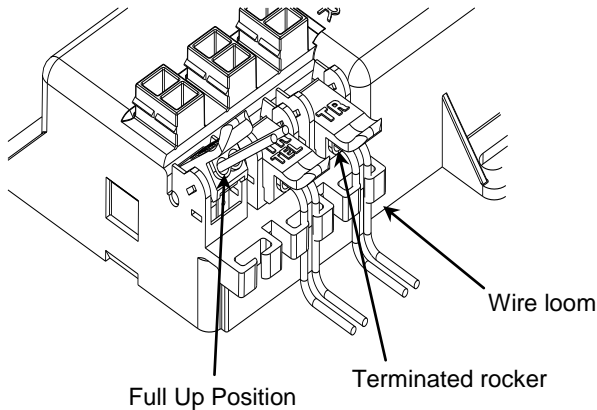
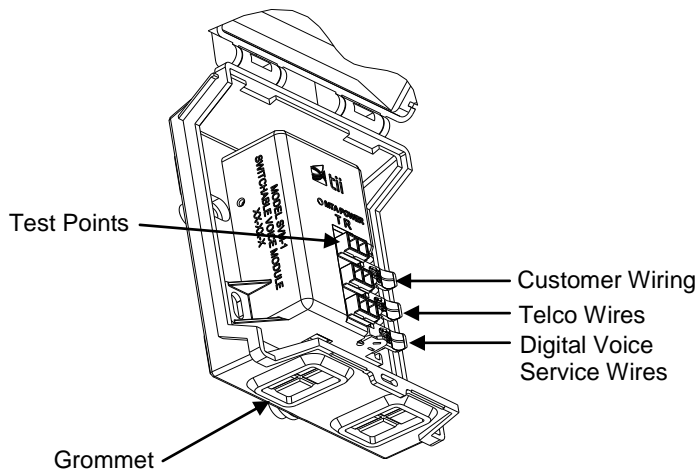

Figure 2
Figure 3
1. Lift the blue rocker for the digital voice service wires (MTA) to the full up position. DO NOT strip wires. (See Figures 2 & 3)
2. Insert the Digital Voice Service wires from ATA/EMTA through the enclosure grommets shown in Figure 3 and into wire guides simultaneously until they bottom-out. While holding the wires in position, terminate them into the MTA (Blue) rocker by lowering it to the full DOWN position (See Figures 2 & 3). If the ATA/EMTA is supplying power to the SVM, the green MTA power LED provided on the line will start to blink.
3. Disconnect the customer premise wiring from the Telephone Network Interface Device (NID). Straighten the ends of the wires, cut kinked and stripped ends. Pass the customer telephone wire through the enclosure (Cust) grommet. Lift the Green/Red rocker to full up position. Insert wires into the Cust wire rocker holes. While assuring that wires are fully inserted, lower the rocker to fully seated position (See Figure 3).
4. Connect the Telco Service using a wire pair from the Telephone NID to the rocker labeled TEL (orange). Follow the procedure described above for the wire pair termination (See Figures 2 & 3).
5. To keep the wire pairs organized, route them through the molded wire looms. (See Figure 2).